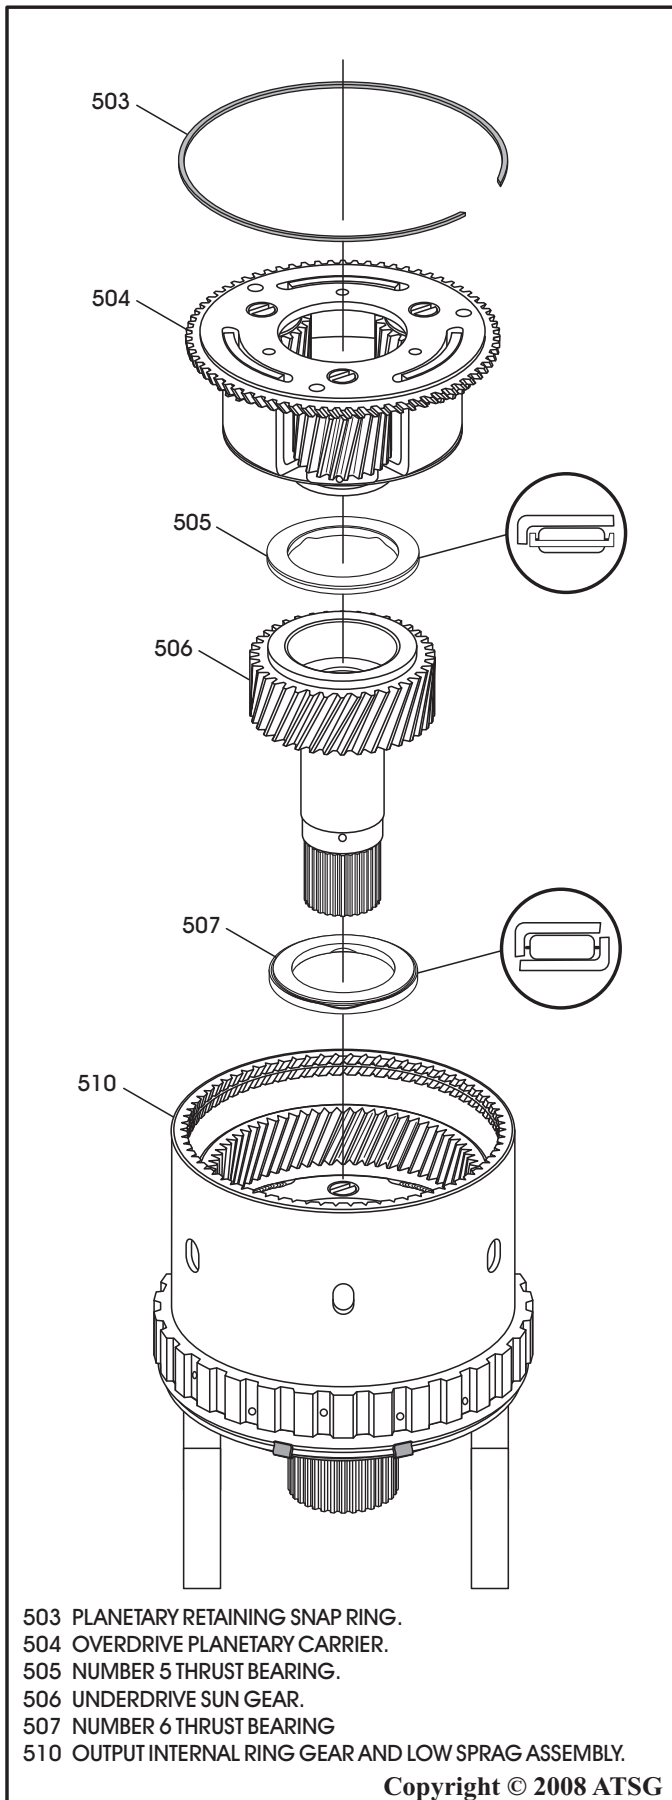

Figure 109
13. Install the number 6 thrust bearing, as shown in Figure 109.
14. Install the underdrive sun gear, as shown in Figure 109.
15. Ensure that the number 5 thrust bearing is still in place on the overdrive planetary carrier and install OD carrier, as shown in Figure 109, by rotating into position.
16. Install overdrive carrier retaining snap ring, as shown in Figure 109, and ensure that it is fully seated.